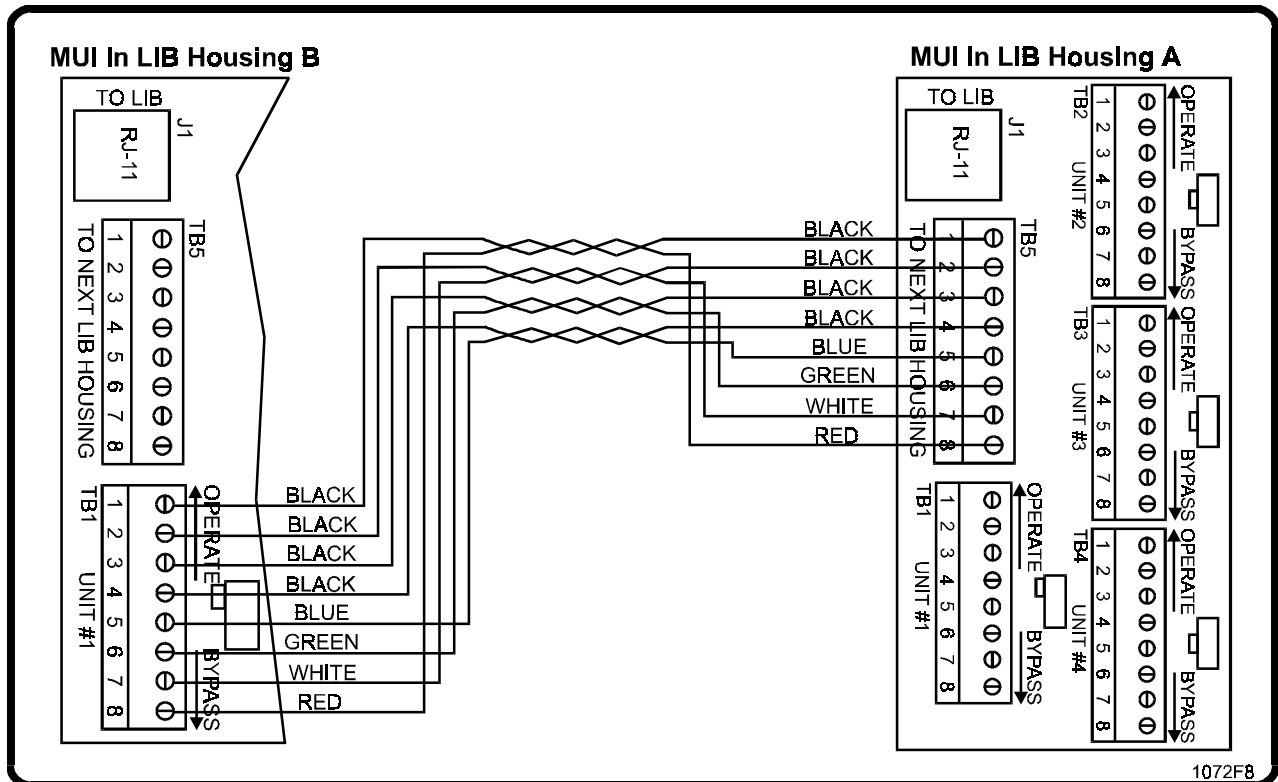

Figure 8. Multiple Entrance LIB Cabling.
- 4 twisted pair cable** between the connector boards of each LIB housing in the stack, as shown in Figure 8. Refer to the figure for which pairs that need to be twisted for a multiple unit installation with multiple LIB housings (diagram applies only to installations with multiple LIB housings).